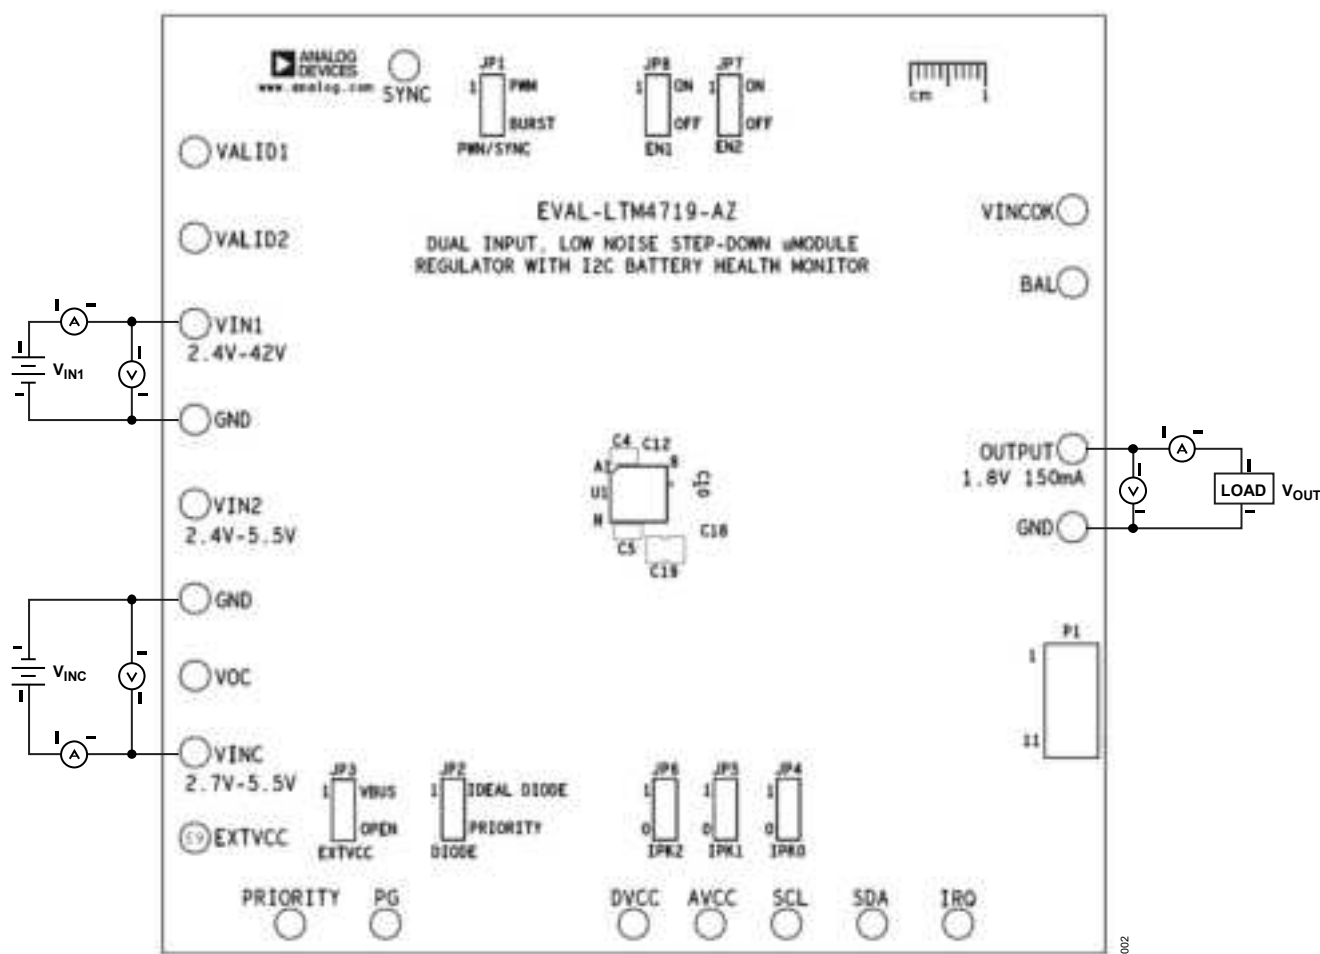

Figure 2. Test Setup of EVAL-LTM4719-AZ
The EVAL-LTM4719-AZ evaluation board provides an easy way to evaluate the performance of the LTM4719  $\mu$ Module. See Figure 2 for test setup connections and use the following procedure.
- With power off, connect the load, input voltage supplies, and meters, as shown in Figure 2.